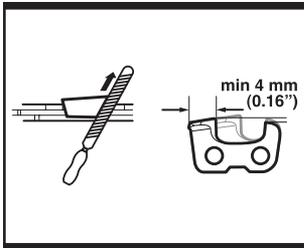

Fig. 33
- 3). Sharpening the tooth. (See Fig.33)